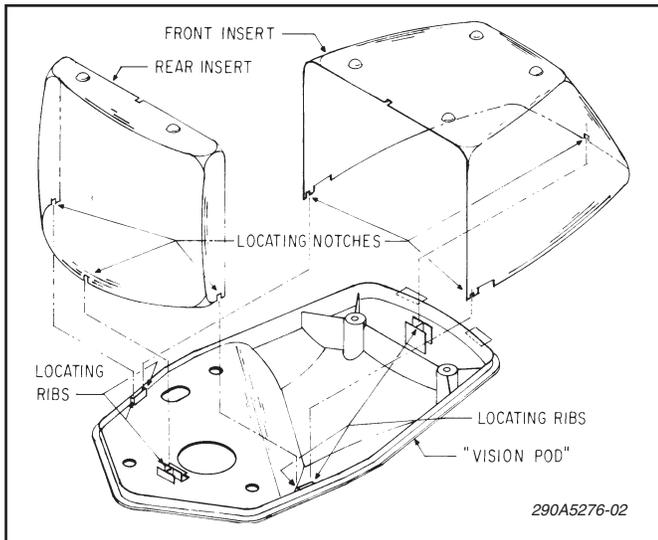

Figure 3-1.
- C. Place the front or rear insert in position and ensure that the locating notches are properly positioned on the locating ribs as shown in figure 3-1. If applicable, repeat with the other insert.